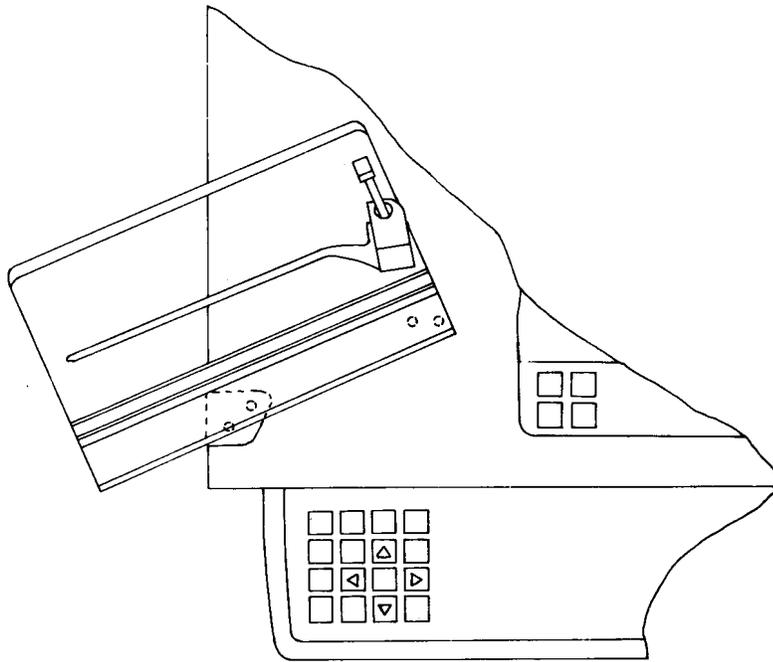

Figure 2 - Copyholder Mounting (Left Hand Side)
3.13 The copyholder supplied with the CDT terminal is designed to mount on the left side of the cabinet cover, (Figure 2). If mounting on the right hand side is desired, reverse